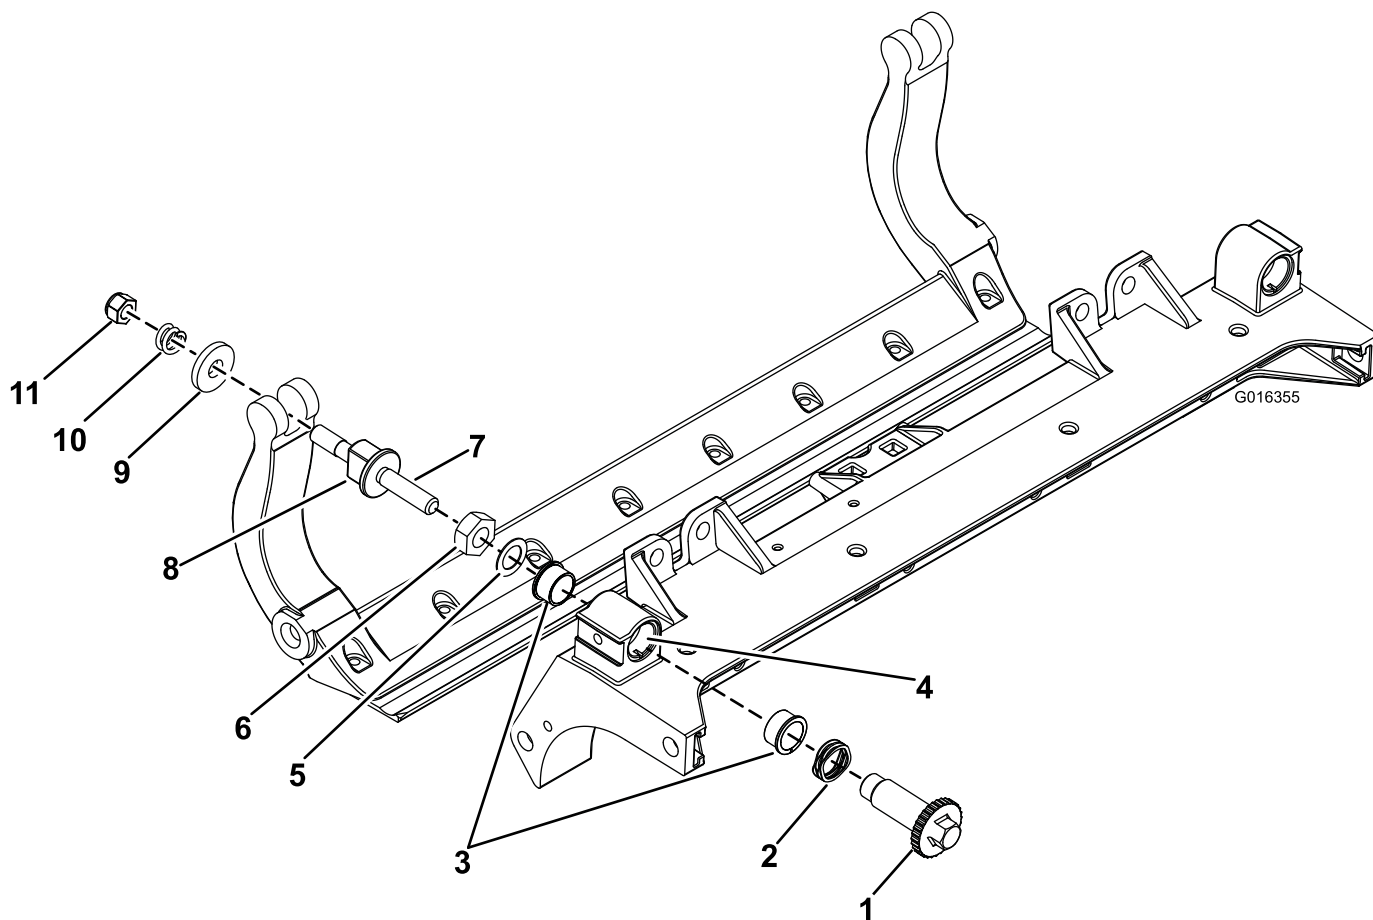

Figure 5
2. Apply Never Seize to the inside of the bushing area on cutting unit center frame (Figure 5).
3. Align the keys on flange bushings to the slots in the frame and install the bushings (Figure 5).
4. Install a wave washer onto the adjuster shaft and slide the adjuster shaft into the flange bushings in the cutting unit frame (Figure 5).
5. Secure the adjuster shaft with a flat washer and lock nut (Figure 5). Torque the lock nut to 15 to 20 ft-lb (20 to 27 N-m).